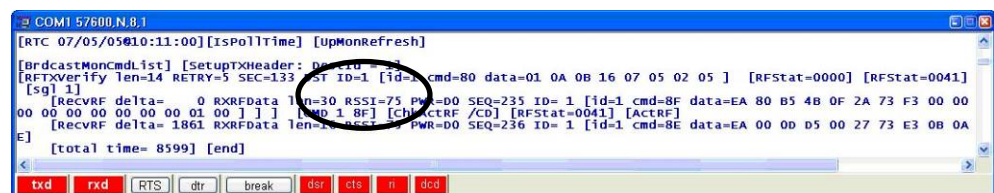

Fig. 8.15: RSSI Value
8.7.5 On the Floating Terminal screen, locate the RSSI value for the Monitor polled. Fig. 8.15